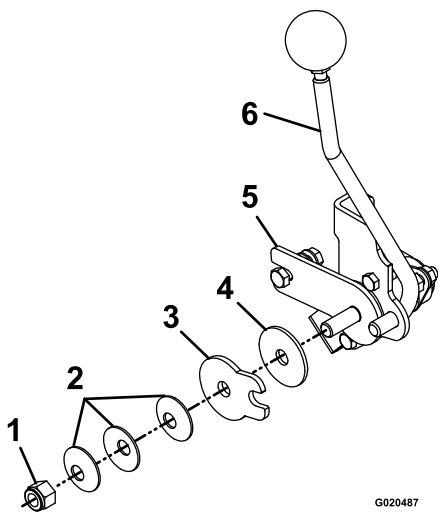

Figure 64
3. Adjust the pivot nut, which is located at the end of the motion-control shaft in front of the right console (Figure 64).